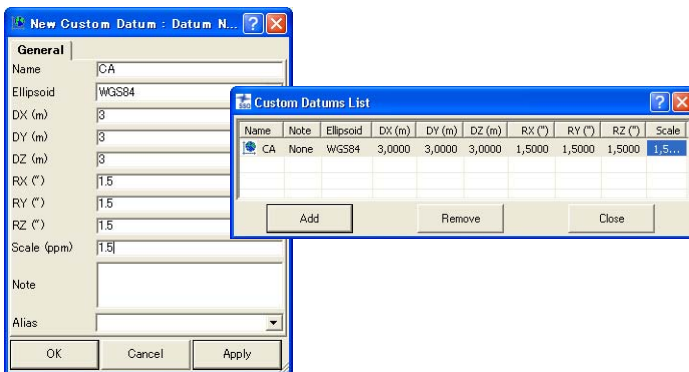

Figure 2-21. New Custom Datum
3. On the *New Custom Datum* dialog box, enter the following information and click **OK** (Figure 2-21 on page 2-16):